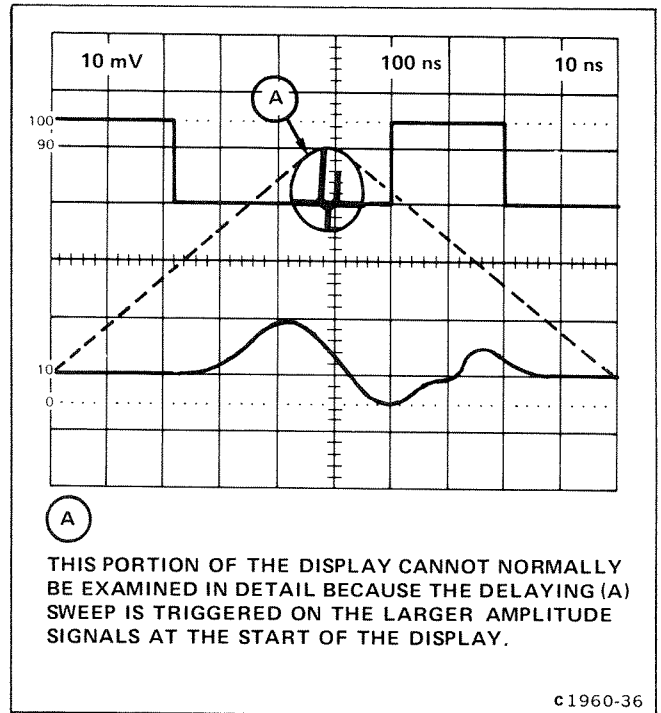

Figure 2-9. Magnifying a selected segment of the delaying (A) sweep in the delay-time mode with mainframe alternate or chopped horizontal operation.
5. To magnify a selected segment of the delaying (A) sweep waveform and determine apparent magnification in the delay-time mode:
- b. Set the appropriate triggering, position, deflection-factor, and sweep-rate controls for the desired dual-trace display. See the example in Figure 2-9.
- c. Turn the DELAY TIME control to position the intensified zone to the portion of the delaying (A) sweep waveform to be magnified.
- d. Set the delayed (B) sweep unit sweep rate to select the desired duration of the magnified display as indicated by the length of the intensified zone.
- e. Observe the magnified display on the delayed (B) sweep. See Figure 2-9.
- f. Determine apparent magnification by dividing the 7B15 TIME/DIV setting by the delayed (B) sweep unit sweep-rate setting.
Example: The apparent magnification of the delayed (B) sweep shown in Figure 2-9 with a 7B15 TIME/DIV setting of .1 millisecond and a delayed (B) sweep unit sweep-rate setting of 1 microsecond is: